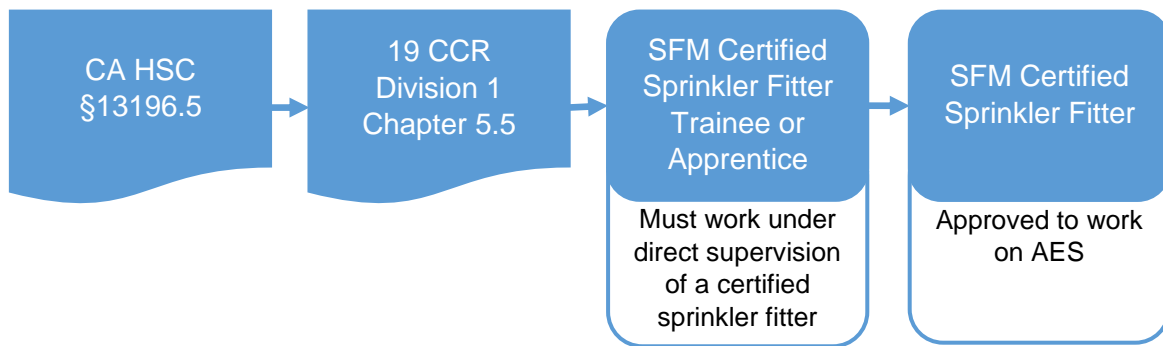

Figure 1 – Automatic Fire Extinguishing System Personnel Requirements
- e. As depicted in Figure 1 below, the California Health and Safety Code requires that personnel who install, alter, repair, or add appurtenances to AES systems shall maintain an active certification issued by the Office of the State Fire Marshal.